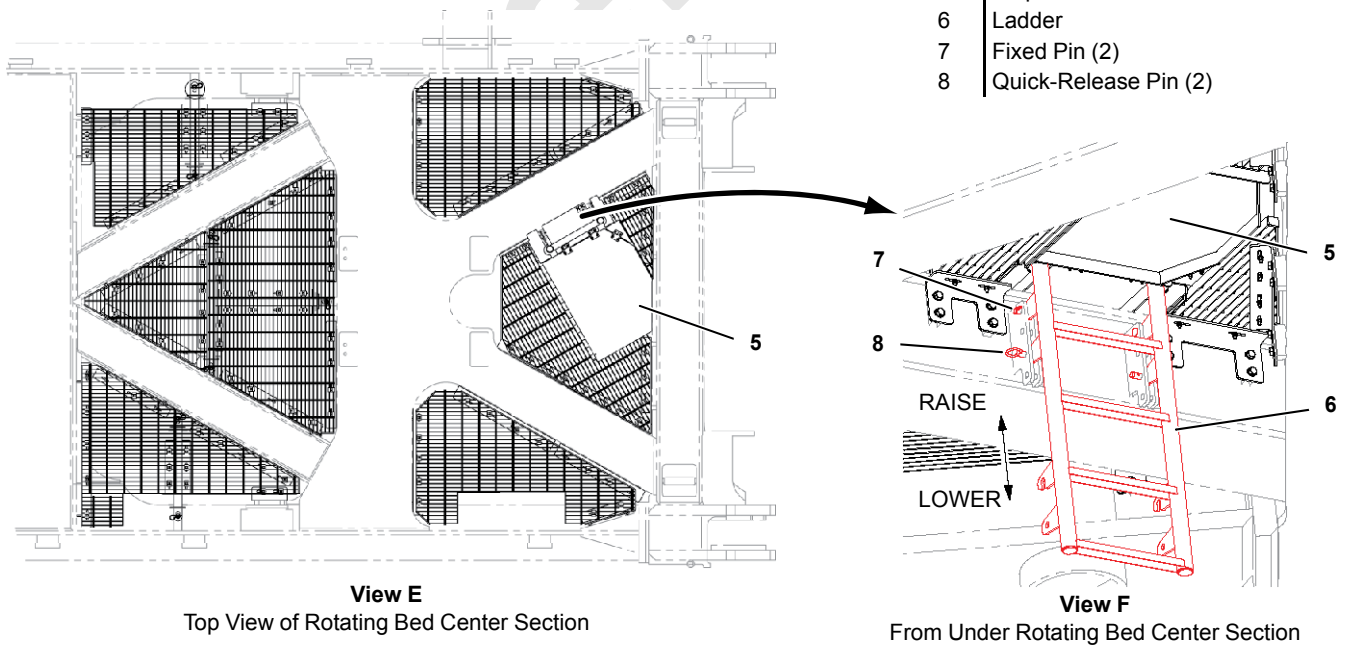

FIGURE 4-44
See Figure 4-44 for the following procedure.
1. Lower ladder (6, Figure 4-44, View F) to gain access through trapdoor (5, View A) to the platforms inside the rotating bed center section.
4. RAISE ladder (6, Figure 4-44, View B) when exiting the rotating bed center section. **Damage will occur if you do not perform this step.**